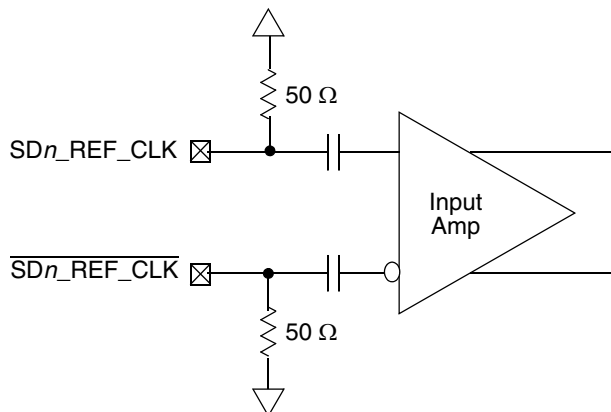

Figure 39. Receiver of SerDes Reference Clocks
Figure 39 shows a receiver reference diagram of the SerDes reference clocks.
- The SDn_REF_CLK and $\overline{\text{SDn\_REF\_CLK}}$ are internally AC-coupled differential inputs as shown in Figure 39. Each differential clock input (SDn_REF_CLK or $\overline{\text{SDn\_REF\_CLK}}$) has a 50- Ω termination to SGND followed by on-chip AC-coupling.